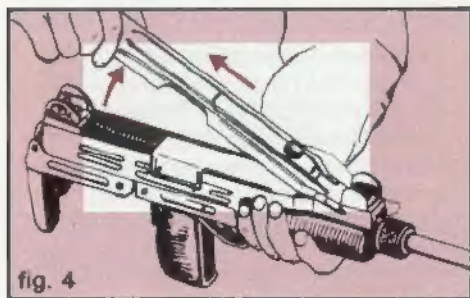

fig. 4
3. Remove cover by lifting upward and rearward. (fig. 4).